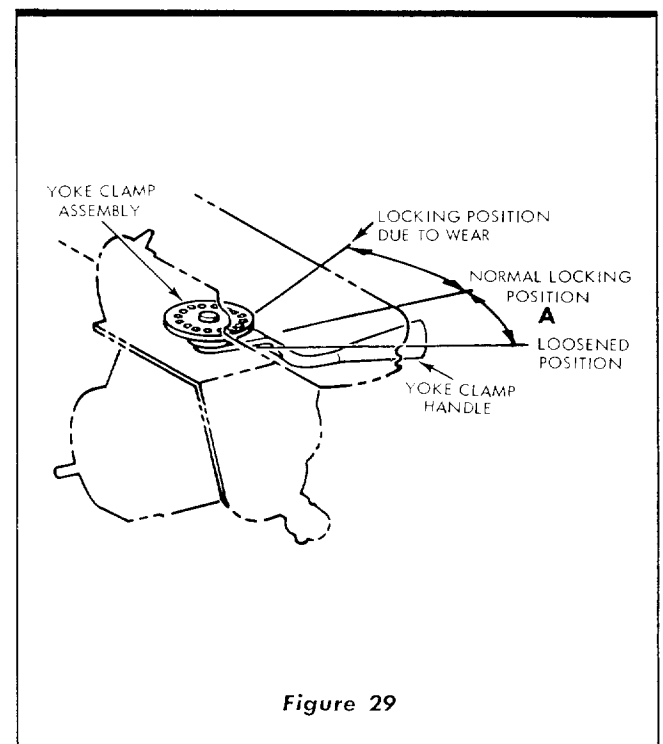
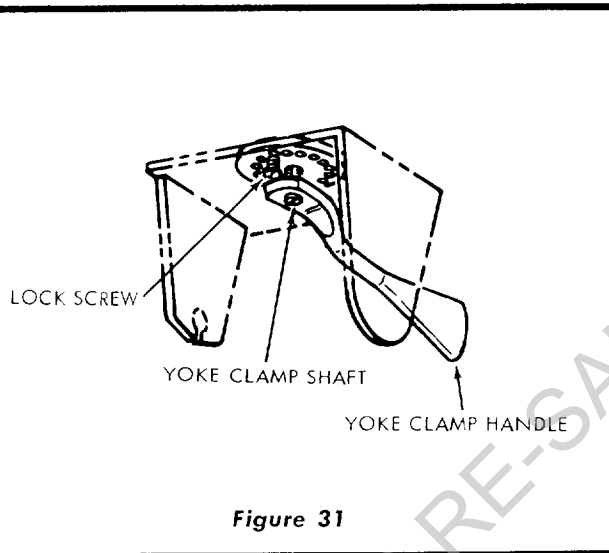
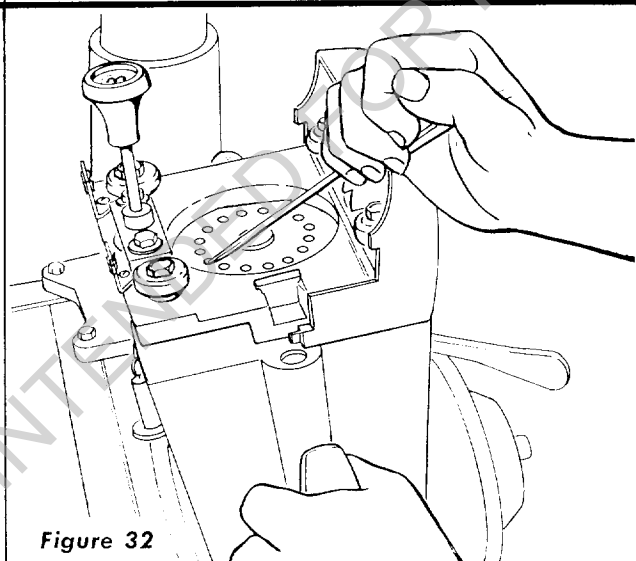

Figure 29
Figure 31
Figure 32
The normal locking position of the yoke clamp handle (figure 29) is approximately midway between the two sides of the yoke.
2. Set yoke clamp handle to Position "A", (figure 29), which is just slightly ahead of the mid-position of handle.
6. Remove the lock screw (figure 31).
7. Using a screwdriver or similar tool, rotate the yoke clamp assembly (figure 29) clockwise (when looking down) until the next hole will line up with the lock screw (See figure 32). Usually, rotating the yoke clamp assembly one hole will correct this adjustment. However, in some cases it may be necessary to rotate it two holes.
8. Make sure the hole in yoke clamp assembly (figure 29) lines up with lock screw hole and install and tighten lock screw (figure 31).